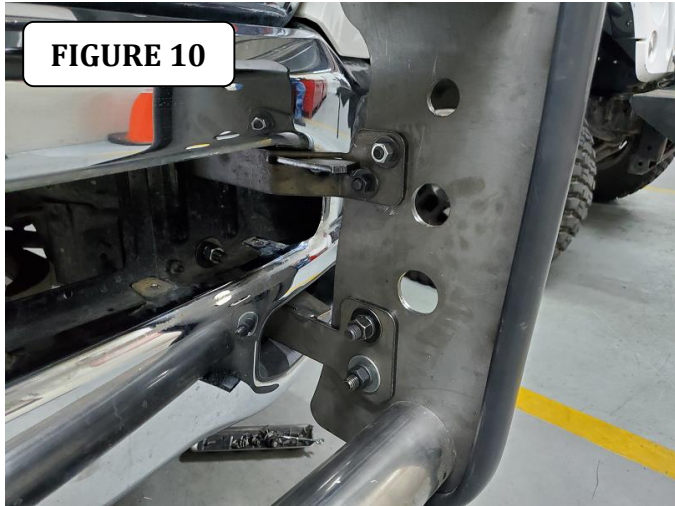

FIGURE 10
Step-10 Place the Center Grille over the lower and upper brackets. Figure 9. Secure the lower brackets using (2) 1/2 x 1 1/2" hex bolts, (4) 1/2" flat washers, (2) 1/2" lock washers and (2) 1/2" hex nuts. Secure to upper brackets using (2) 3/8 x 1 1/4" hex bolt, (2) 3/8" flat washer, (2) 3/8" lock washer and (2) 3/8" hex nut. Leave loose. Figure 10.